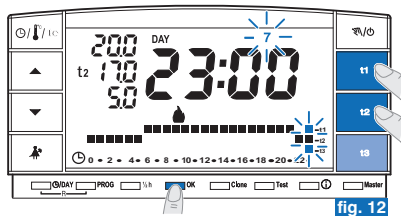

fig. 12
- Once the temperature profile is set for **Sunday (7)**, press **OK** (example in fig. 12) to save and return to Monday's (1) settings; **then press the OK key again for 4 seconds** (example in fig. 13); **this operation saves the complete weekly program.**